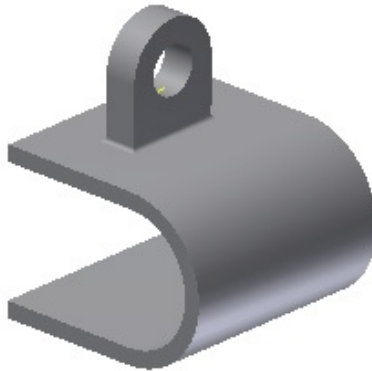

Figure 7-55 Model after creating the third join feature
- e. Suppress all features, except the base feature, and then define a work plane at an offset of 17.5 mm from the left face of the base feature. Draw the sketch for the third join feature and extrude it using the **Symmetric** option, refer to Figure 7-55.
3. Extrude the sketch to a distance of 8 mm using the **Join** operation and the **Symmetric** option. If the **Autodesk Inventor** warning window is displayed, choose **Accept** from it. The model after creating the third join feature is displayed in Figure 7-55.